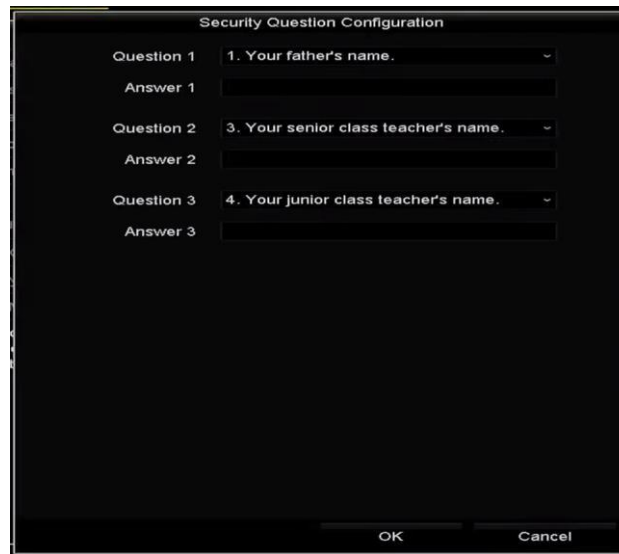

Figure 2-5 Security Question Configuration
- 3) A prompt of attention pops up as shown as figure 2-5.